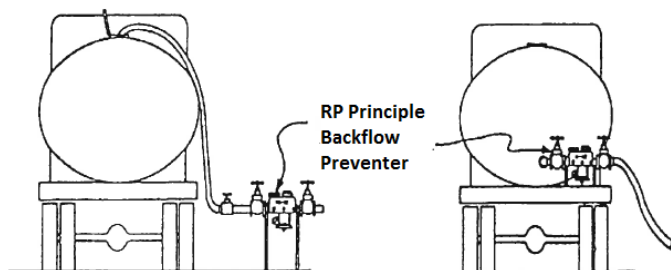

Figure 2: Water hauling equipment with reduced pressure principle backflow preventer (RP)
Other methods of backflow prevention may include double check valve assemblies (DCVA), or reduced pressure principle backflow preventers (RP). DVCAs and RPs must be tested in accordance with CSA B64.10 Standard. It is the customer's responsibility to ensure backflow prevention meets the appropriate standard and is certified. A representation of an RP is shown in Figure 2.